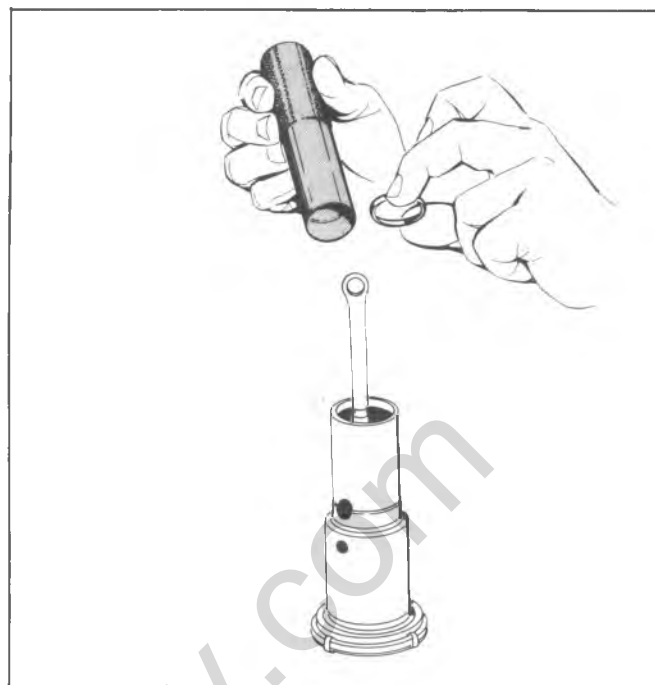
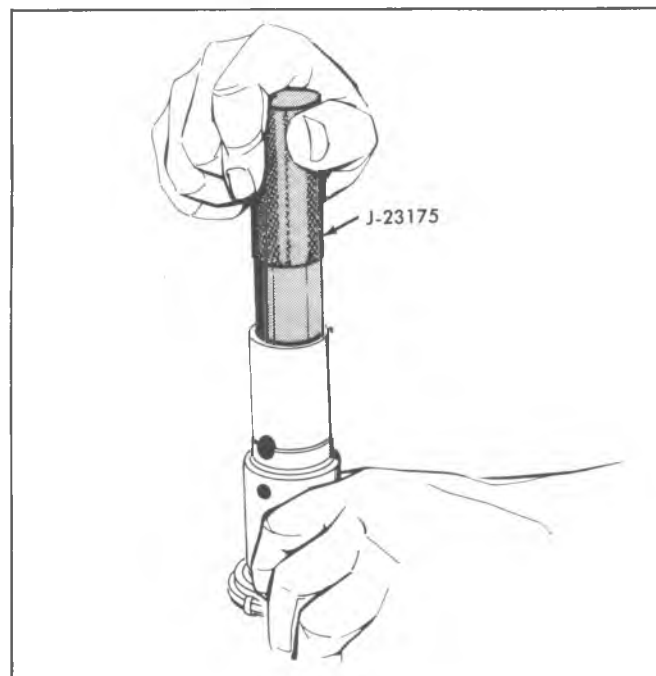

Fig. 5-3A--Installing Air Valve Push Rod Retainer
Fig. 5-4A--Seating Air Valve Push Rod Retainer Using J-23175
5. Place lip of retainer on the O.D. of Tool J-23175 (fig. 5-3A). Manually press the retainer until seated in the power piston tube (fig. 5-4A).